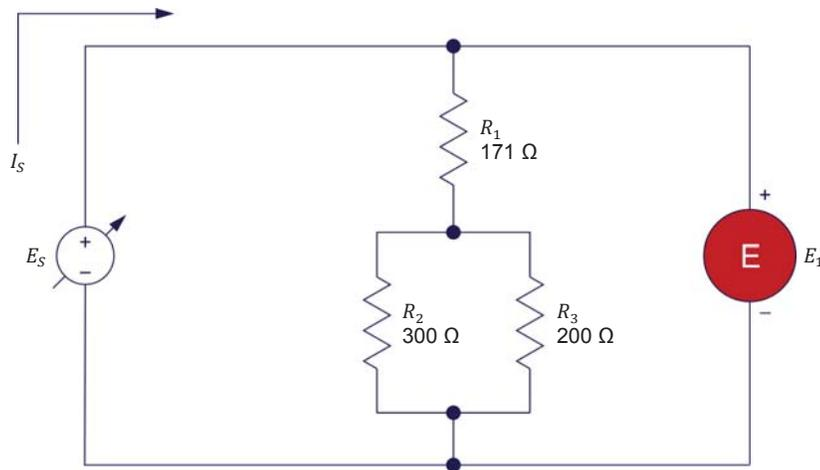

Figure 21. Determining the equivalent resistance of resistors connected in series-parallel (case 1).
13. Set up the series-parallel circuit shown in Figure 21. To obtain the resistor arrangement of Figure 21, make the necessary connection(s) and switch settings on the Resistive Load module.
14. Calculate the equivalent resistance  $R_{Eq.}$  of series-parallel resistors  $R_1$ ,  $R_2$ , and  $R_3$  in Figure 21.
4. Refer to Figure 21. Assume that resistors  $R_1$ ,  $R_2$ , and  $R_3$  have a value of  $300\ \Omega$ ,  $171\ \Omega$ , and  $200\ \Omega$ , respectively. If an additional  $100\ \Omega$  resistor is connected across these resistors, will the equivalent resistance increase, decrease, or remain the same as before? Why?